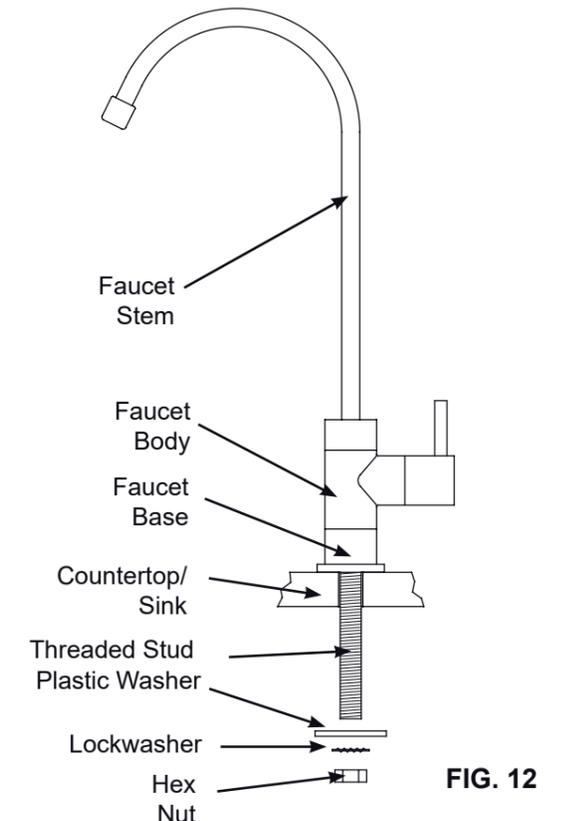

FIG. 12
1. Locate and organize your RO faucet install parts. Refer to Fig. 12.
2. Assemble the faucet body, base and stem, as shown in Figure 12.
4. Install the plastic washer, lockwasher and hex nut onto the threaded stud, in the order shown in Figures 12 & 13. Do not overtighten hex nut.